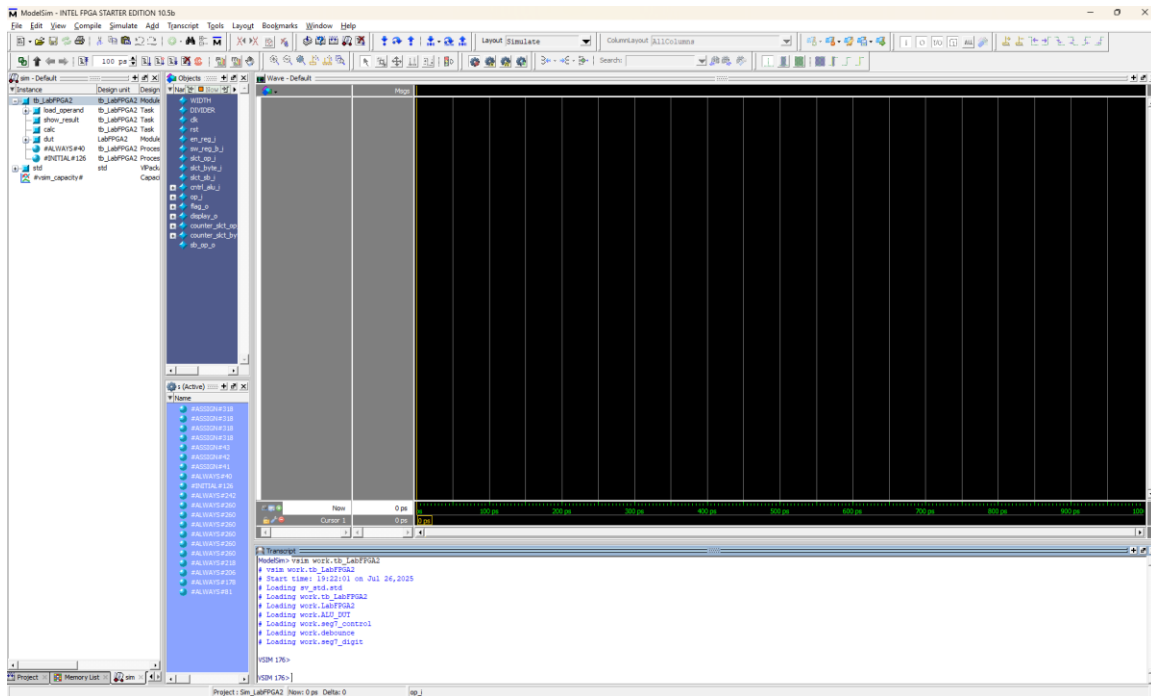

Figure 12. Simulation Tabs
30. A set of tabs will appear, as shown in Figure 12. You can drag signals from the *Objects* window into the *Wave* tab to visualize the signal waveforms. In the *Instance* tab, you can explore both testbench and DUT signals. Feel free to explore freely.